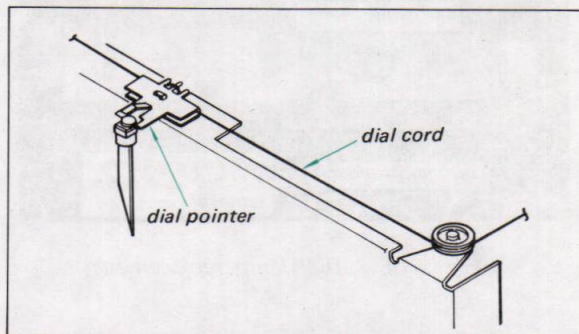

Fig. 2-12. Dial pointer installation
1. Put the dial pointer on the cord as shown in Fig. 2-12, and then tune the set to the local fm station. Move the dial pointer to the position where the pointer indicates the local station's carrier frequency. Apply a drop of contact cement to it.